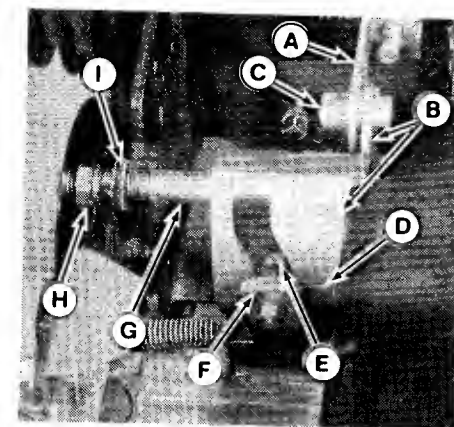

Figure 23. Hydrostatic Neutral Adjustment
- b. Raise the seat deck and check if the pump control arm roller (E, figure 23) is exactly centered with the centering mark (D). If not, loosen bolt (C) and move the control cam (B)